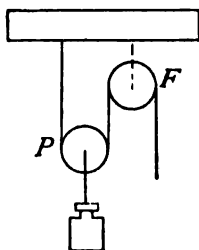
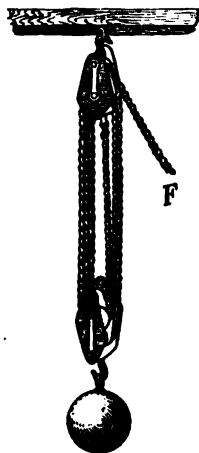

FIG. 96.—A single movable pulley.
FIG. 97.—Block and tackle.
**125. The Pulley.**—The *pulley* consists of a wheel turning on an axis in a frame. The wheel is called a sheave and the frame a block. The rim may be smooth or grooved. The grooved rim is used to hold a cord or rope. One use of the pulley is to change the *direction* of the acting force as in Fig. 84, where pulley *B* changes a horizontal pull at *H* to a downward force and pulley *A* changes this into an upward force lifting the weight *W*. These pulleys are fixed and simply change the direction. Without considering the loss by friction, the pull at *W* will equal that at *F*. Sometimes, a pulley is attached to the weight and is lifted with it. It is then called a *movable pulley*. In Fig. 96 the *movable pulley* is at *P*, a fixed pulley is at *F*. When *fixed pulleys* are used, a single cord runs through from the weight to the effort, so that if a force of 100 lbs. is applied by the effort the same force is received at the weight. But with movable pulleys several sections of cord may extend upward from the weight each with the force of the effort upon it. By this arrangement, a weight several times larger than the effort can be lifted. Fig. 97 represents